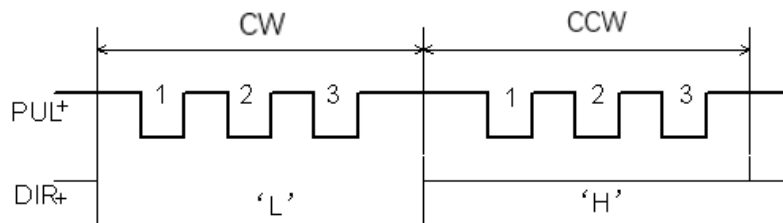
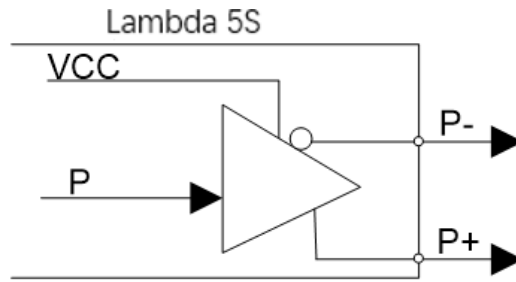

Figure 2-4 Differential signal pulse command output type
Figure 2-5 Differential signal pulse command output circuit
- The form of pulse command to control the movement of the drive is pulse + direction, negative logic. The highest pulse frequency is 1MHz. The pulse method is shown in figure 2-4, and the differential signal output method is shown in figure 2-5.